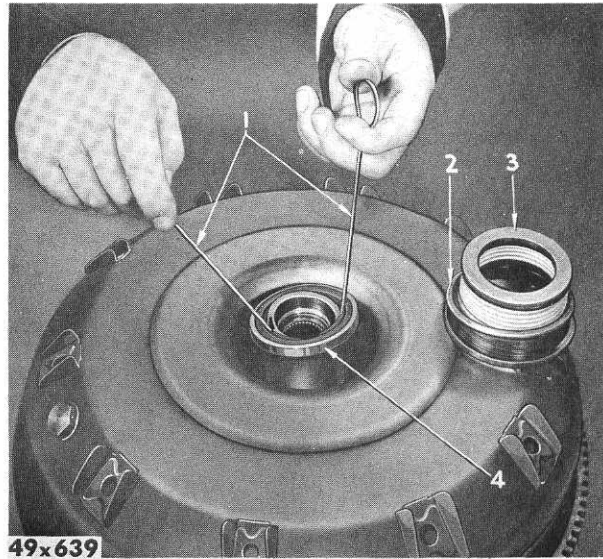

Fig. 10—Removing Seal Ring
- (7) With two pieces of wire (bent to form hooks) lift out the seal ring, as shown in Figure 10.